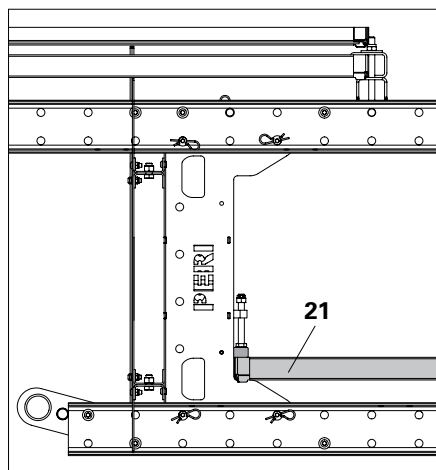

Fig. C1.22b
4. Screw the Adjusting Bolt (32.1) against the distance plate or Telescopic Screen and thereby clamp the Screen Element in position. (Fig. C1.22b + C1.22c)